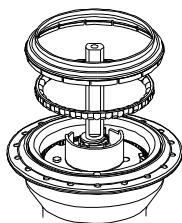

Fig 6
5. Place the ball cage assembly on the ball ring ensuring that the balls are positioned downwards. Fit the plastic dust cap on the ball cage assembly. (Fig.6)